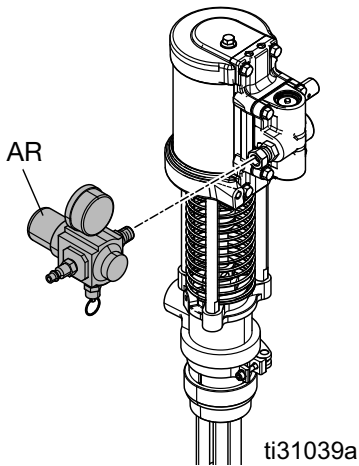

FIG. 6
2. Connect the supplied air regulator (AR) to the swivel fitting on the air motor manifold. See FIG. 6.